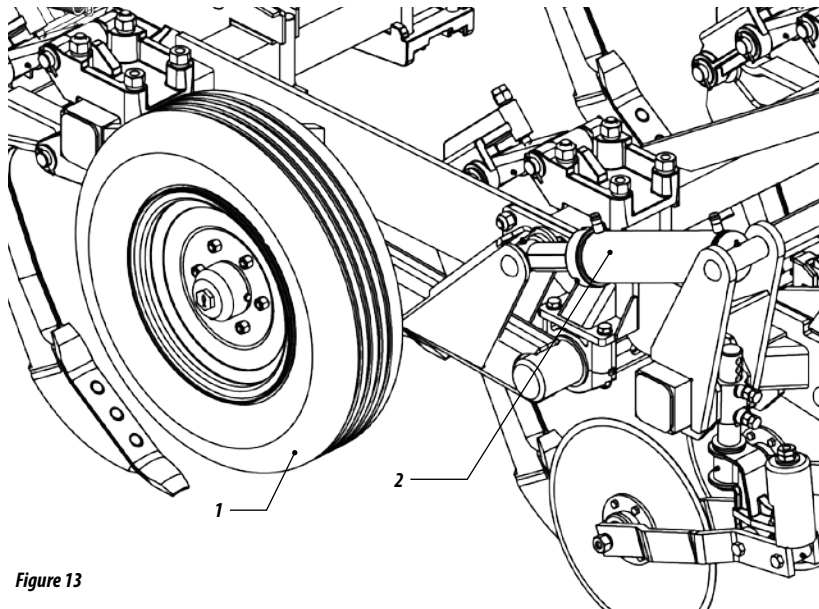

Figure 13
01 - The operational depth is regulated by the depth wheel setting (1) figure 13 that are controlled by the piston stroke (2).